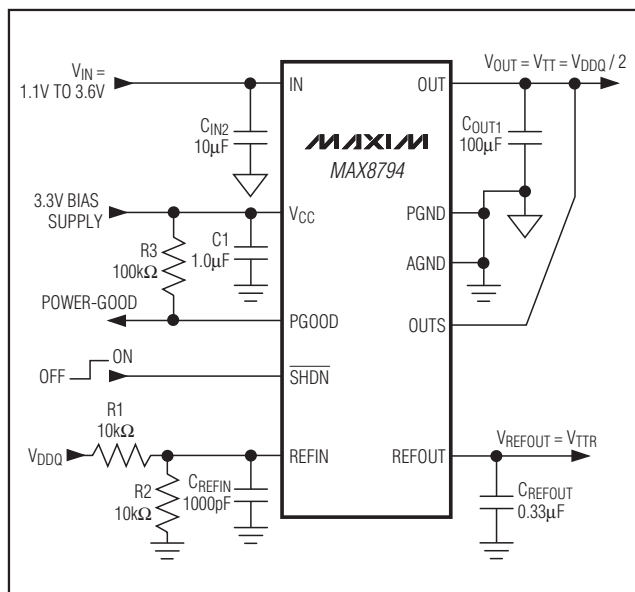

Figure 1. Standard Application Circuit
( $V_{IN} = 1.8V$ ,  $V_{CC} = 3.3V$ ,  $V_{REFIN} = V_{OUTS} = 1.25V$ ,  $\overline{SHDN} = V_{CC}$ , circuit of Figure 1,  $T_A = -40^{\circ}C$  to  $+85^{\circ}C$ , unless otherwise noted. Typical values are at  $T_A = +25^{\circ}C$ .) (Note 1)
(Circuit of Figure 1.  $T_A = +25^\circ\text{C}$ , unless otherwise noted.)
The MAX8794 is a low-voltage, low-dropout DDR termination linear regulator with an external bias supply input and a buffered reference output (see Figures 1 and 2).  $V_{CC}$  is powered by a 2.7V to 3.6V supply that is commonly available in laptop and desktop computers. The 3.3V bias supply drives the gate of the internal pass transistor, while a lower voltage input at the drain of the transistor (IN) is regulated to provide  $V_{OUT}$ . By using separate bias and power inputs, the MAX8794 can drive an n-channel high-side MOSFET and use a lower input voltage to provide better efficiency.
The MAX8794 regulates OUTS to the voltage set at REFIN, making the MAX8794 ideal for memory applications where the termination supply must track the supply voltage. Typically, REFIN is set by an external resistive voltage-divider connected to the memory supply (VDDQ) as shown in Figure 1.